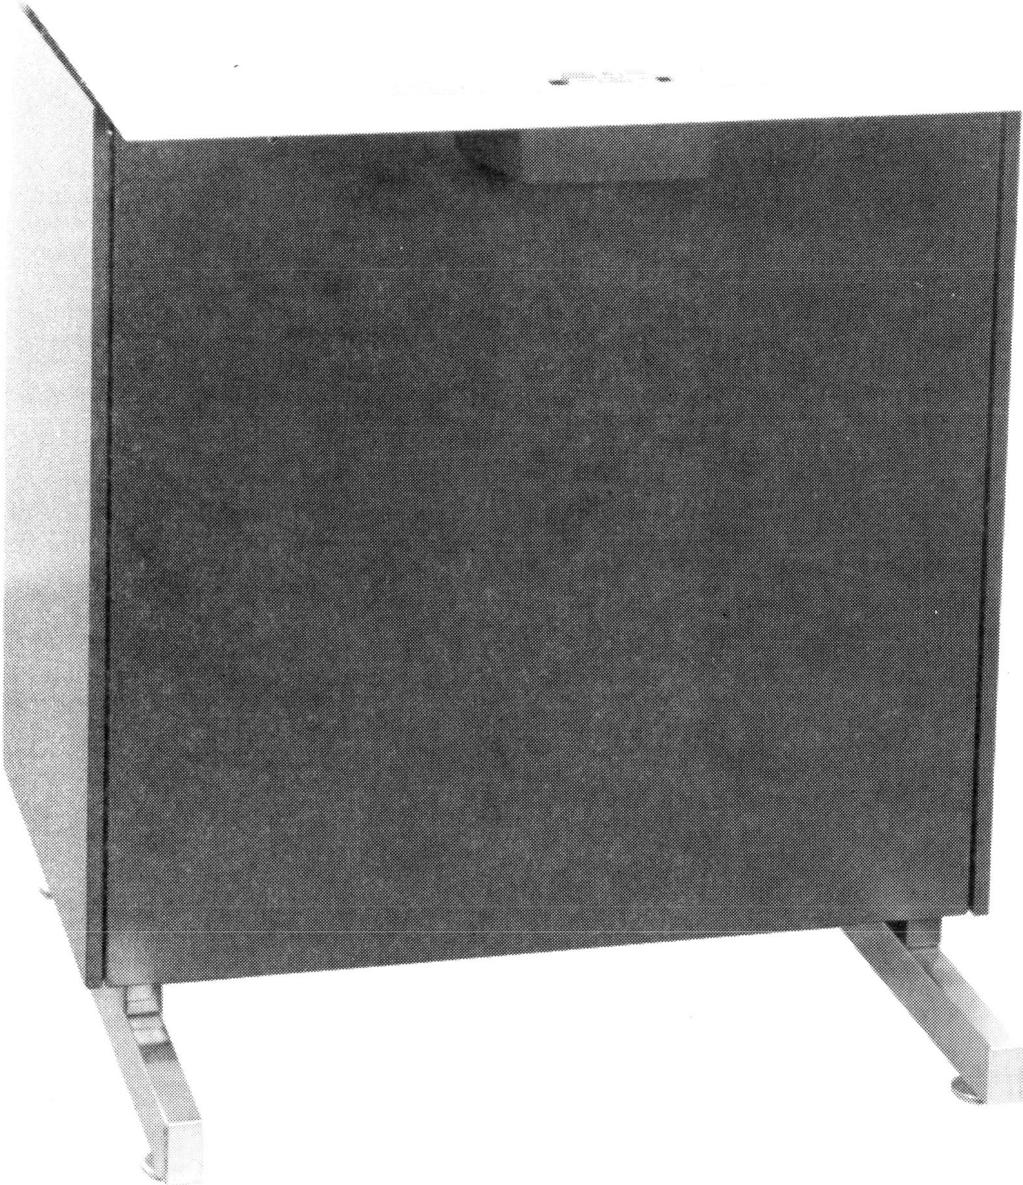

Figure 1 - Typical Buffer Set
1.01 This section provides the installation, checkout, and troubleshooting for the Series 2540 Dependent Buffer Set (Figure 1). This section is being reissued to delete all information pertaining to the 2541 Independent Buffer Set.